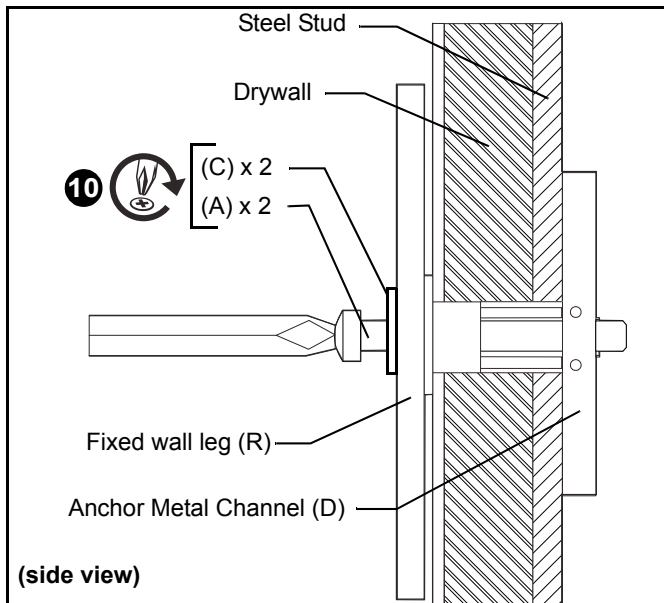

Figure 17
8. Place fixed wall legs (R) over anchors and align mounting slots with holes in anchors. (See Figure 17)
9. Place 1/4" flat washer (C) onto 1/4-20 x 1-3/4" Phillips pan head screw (A).
10. Insert Phillips pan head screw (A) with flat washer (C) through mounting slot in fixed wall leg and into snap toggle (D) and tighten until flush against fixed wall leg. DO NOT over-tighten! (See Figure 17)